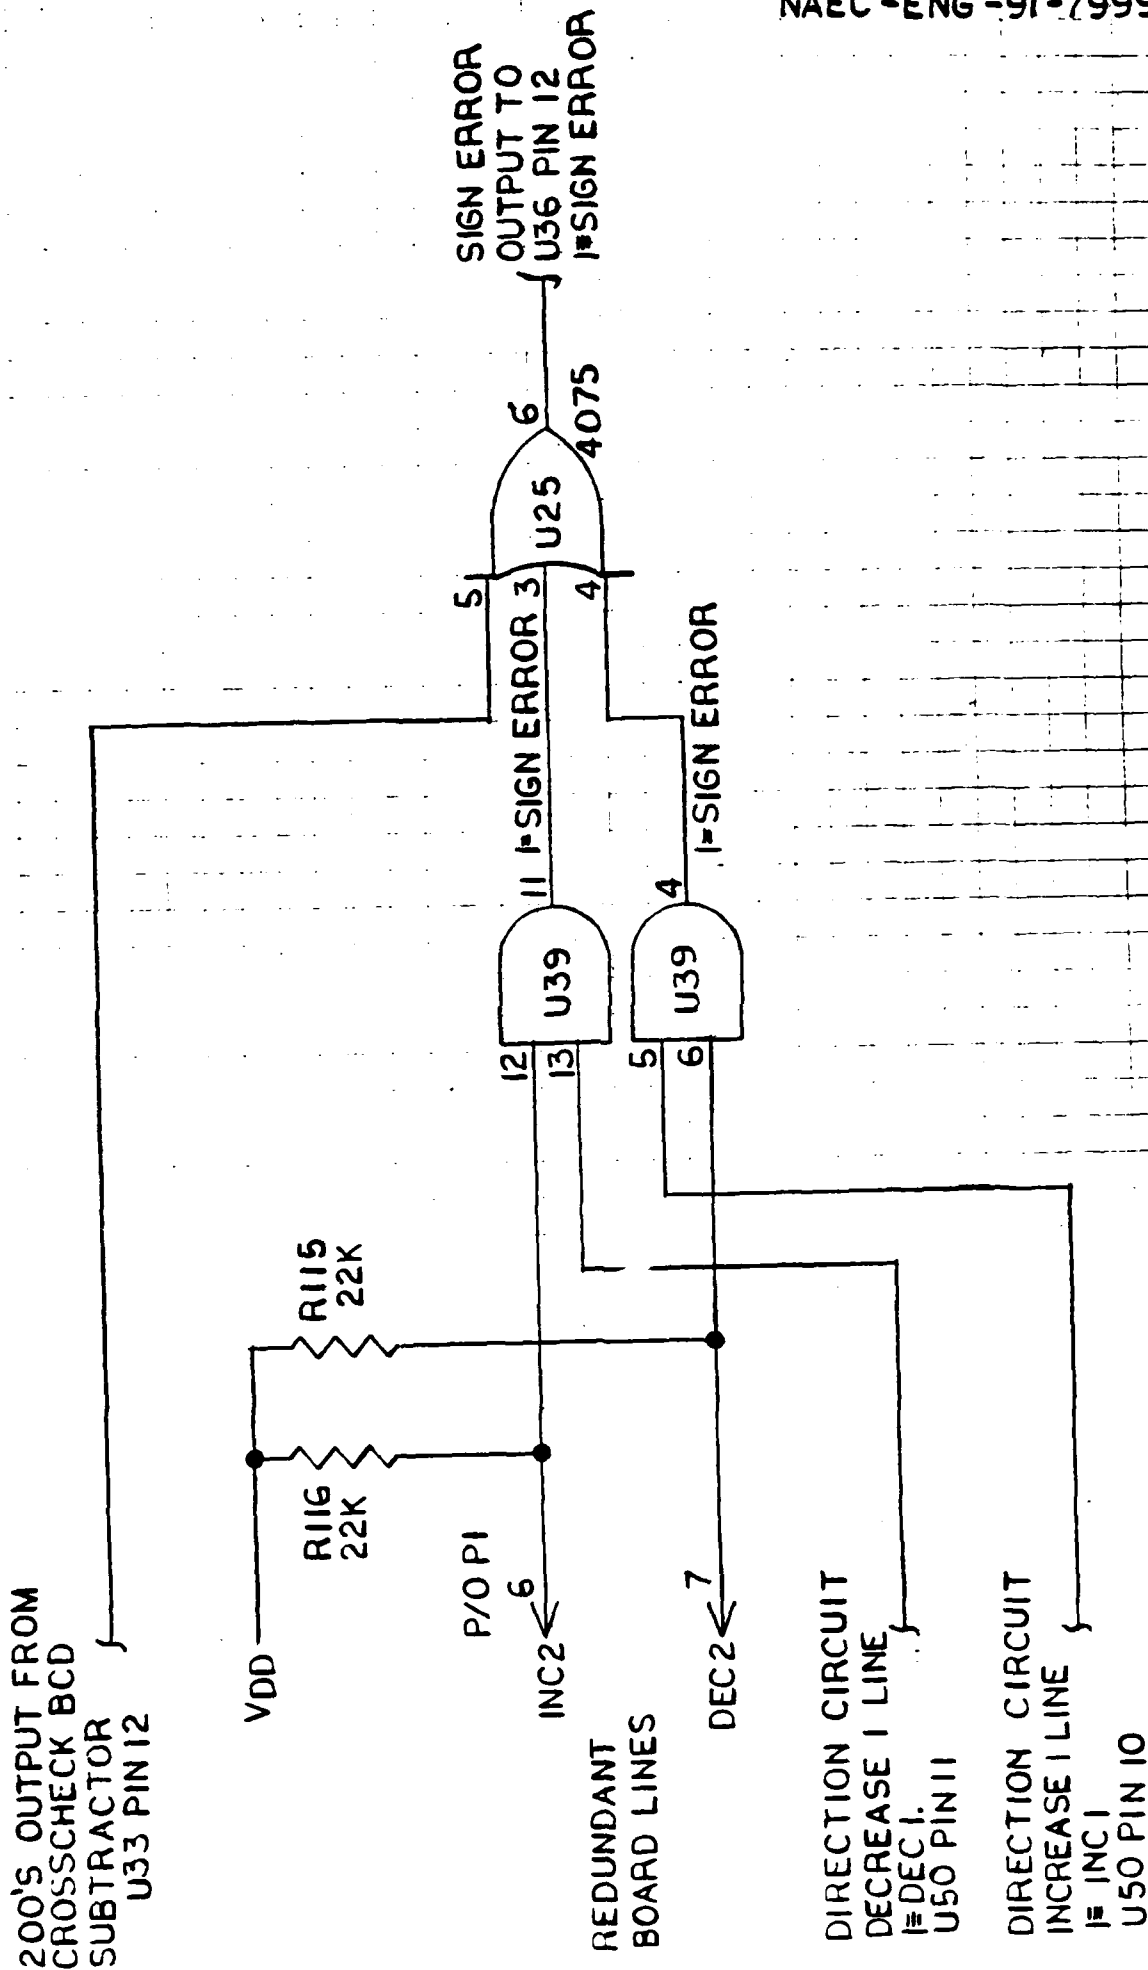

FIGURE 29 SIGN ERROR CIRCUIT
c. The coincidence circuit schematic is shown in Figure 29.